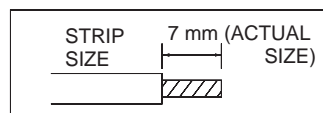

Fig. 29
- (1) Cut the wire end with a cutting pliers, then strip the insulation to expose the wire about 7 mm. See the label (Fig. 29) near the terminal plate.
- (2) Using a screwdriver, loosen the terminal screw on the terminal plate.
- (3) Insert the wire and tighten the terminal screw completely using a screwdriver.